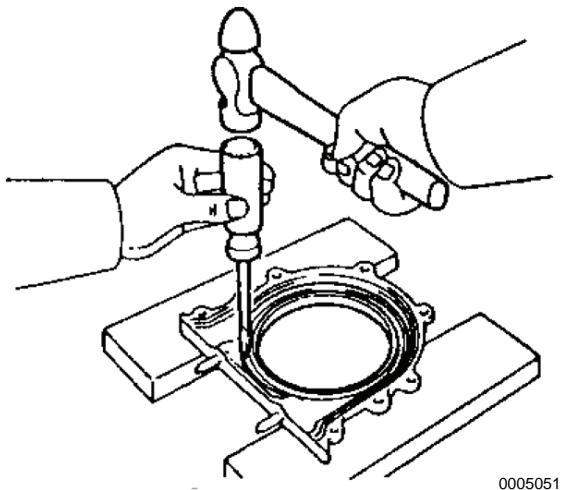

Figure 5-128
1. Tap out the oil seal using a screwdriver and hammer (**Figure 5-128**).